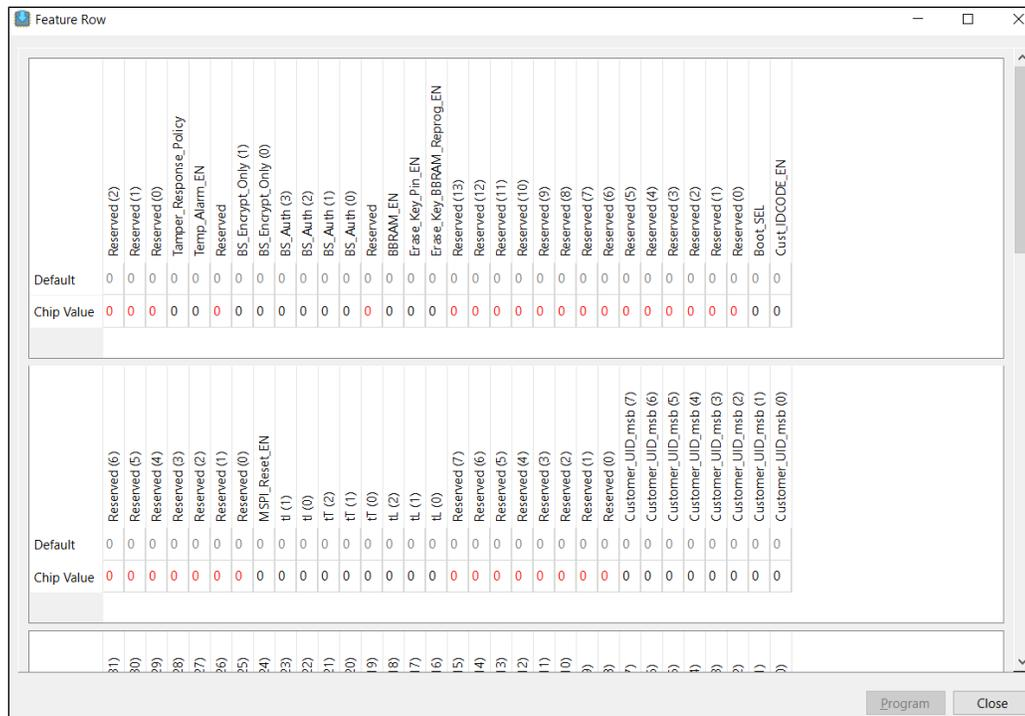

Figure 7.3. Feature Row Window
4. Click **Run > Program Device**. The Feature Row window appears (Figure 7.3).